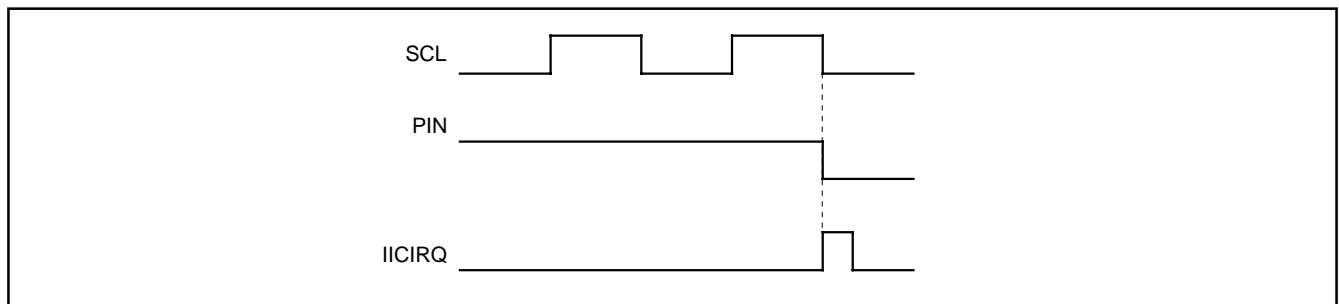

Fig. 8.6.8 Interrupt Request Signal Generation Timing
This bit generates an interrupt request signal. Each time 1-byte data is transmitted, the state of the PIN bit changes from "1" to "0." At the same time, an interrupt request signal is sent to the CPU. The PIN bit is set to "0" in synchronization with a falling edge of the last clock (including the ACK clock) of an internal clock and an interrupt request signal occurs in synchronization with a falling edge of the PIN bit. When detecting the STOP condition in slave, the multi-master I2C-BUS interface interrupt request bit (IR) is set to "1" (interrupt request) regardless of falling of PIN bit. When the PIN bit is "0," the SCL is kept in the "0" state and clock generation is disabled. Figure 8.6.8 shows an interrupt request signal generating timing chart.